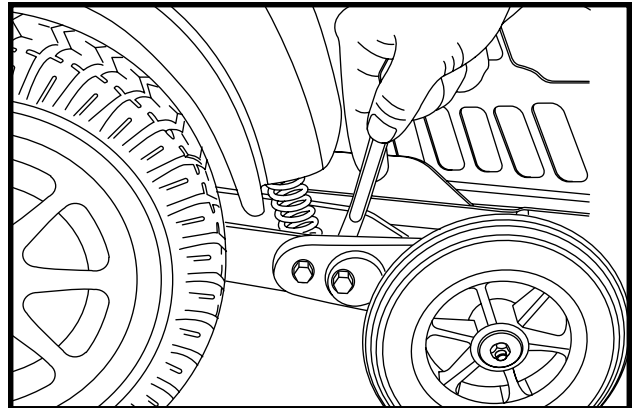

Figure 24. Anti-Tip Bracket (Inner Locknut)
1. Place a wrench on the inner locknut of the anti-tip bracket located right after the shock strut. See figure 24.